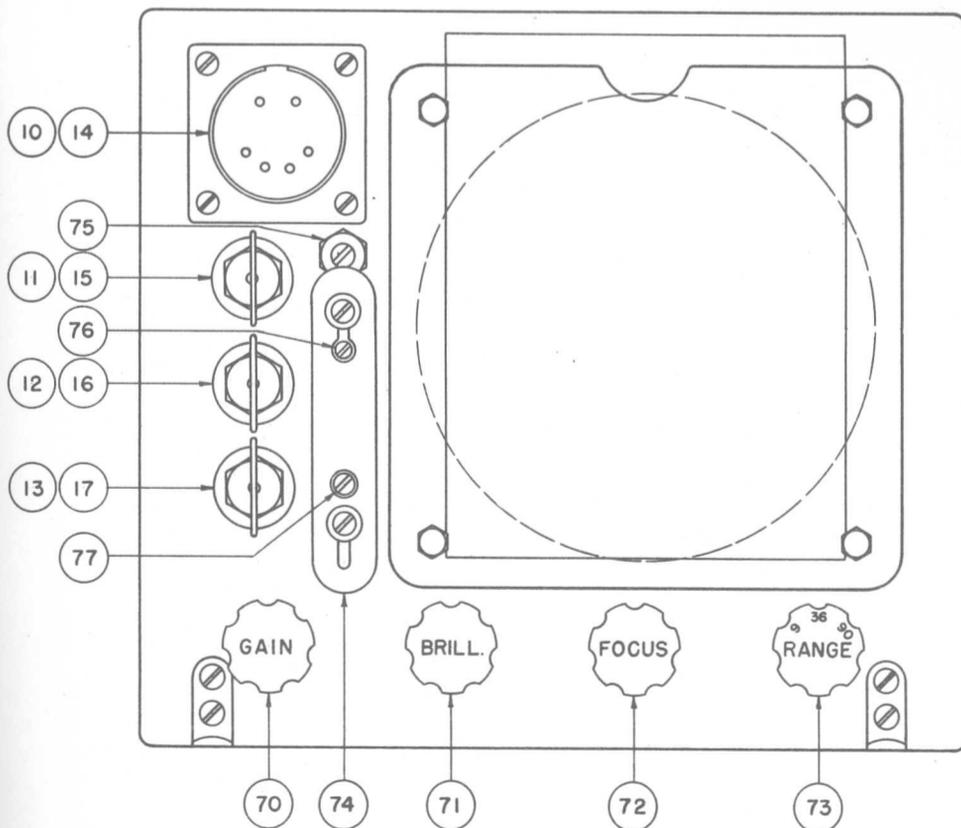

Figure 3 - Indicator BC-704-A - Front View
STEP 8: Observe whether there is any sparking at Socket (24), or evidence of sparking within the Transmitter. (Do not remove transmitter covers with high voltage switch ON). If any sparking persists for more than a second or two the high voltage switch should be thrown to OFF position at once.
STEP 9: If transmitter appears to be operating satisfactorily, observe Local Indicator tube. A vertical line should appear on the face of the indicator tube. If this line does not appear, alter the setting of the "Brilliance" (71) and "Focus" (72) controls simultaneously until a line appears. These settings will probably have to be readjusted when changing position of the "Range" switch (73). (See Fig. 3). The Range Switch (73) should be set at all three positions in turn and operation noted.
Under the sliding cover plate (74) (See Fig. 3) are three controls with slotted shafts. The setting of these controls is usually checked by a specially trained radio mechanic immediately before the equipment is to be used. However, under abnormal conditions it may be necessary for the Operator to adjust these controls.